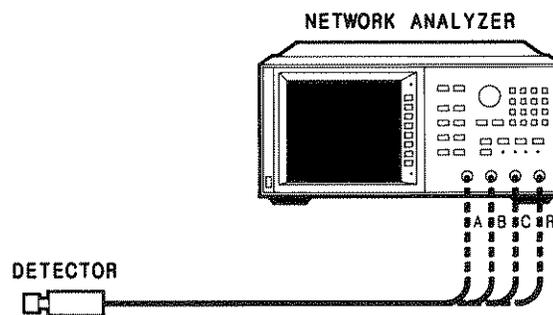

Figure 4-7. Detector Control Circuitry Test Setup
5. Connect the detector to input A of the HP 8757A as illustrated in Figure 4-7.